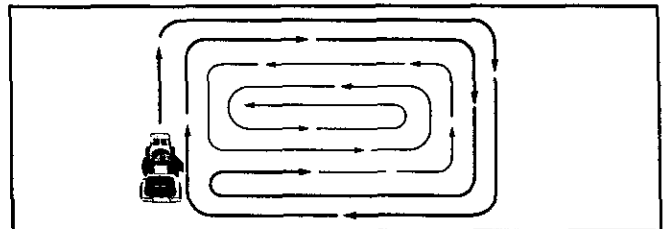

FIG. 8
- When mowing large areas, start by turning to the right so that clippings will discharge away from shrubs, fences, driveways, etc. After one or two rounds, mow in the opposite direction making left hand turns until finished (See Fig. 8).